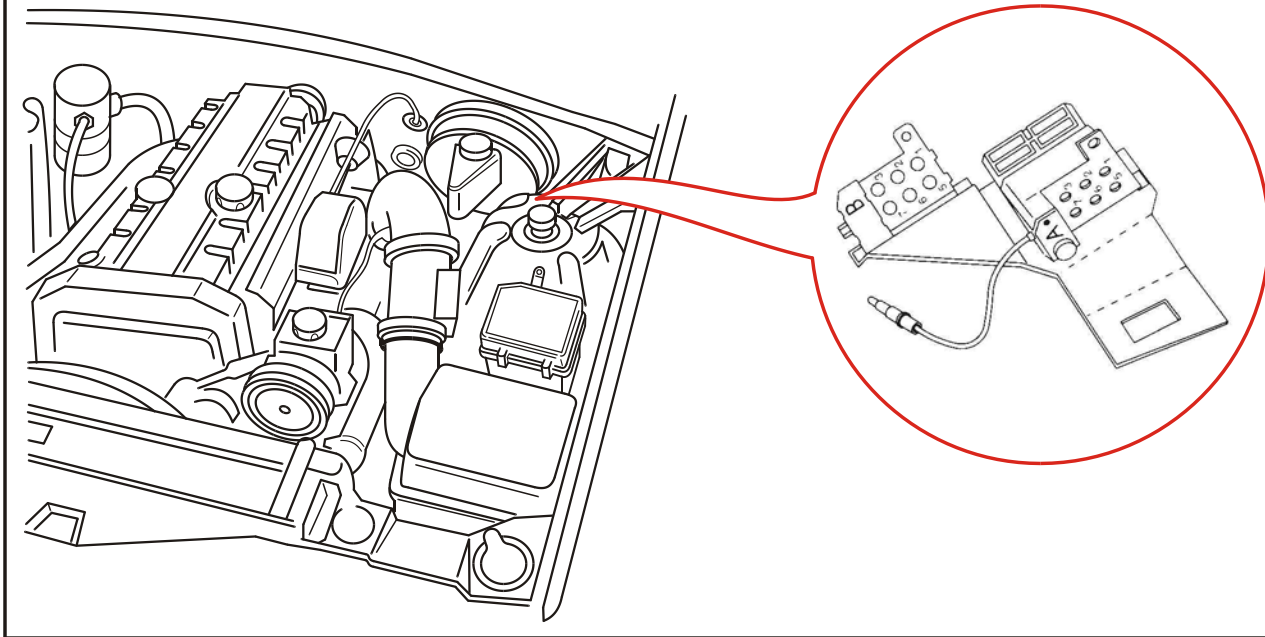
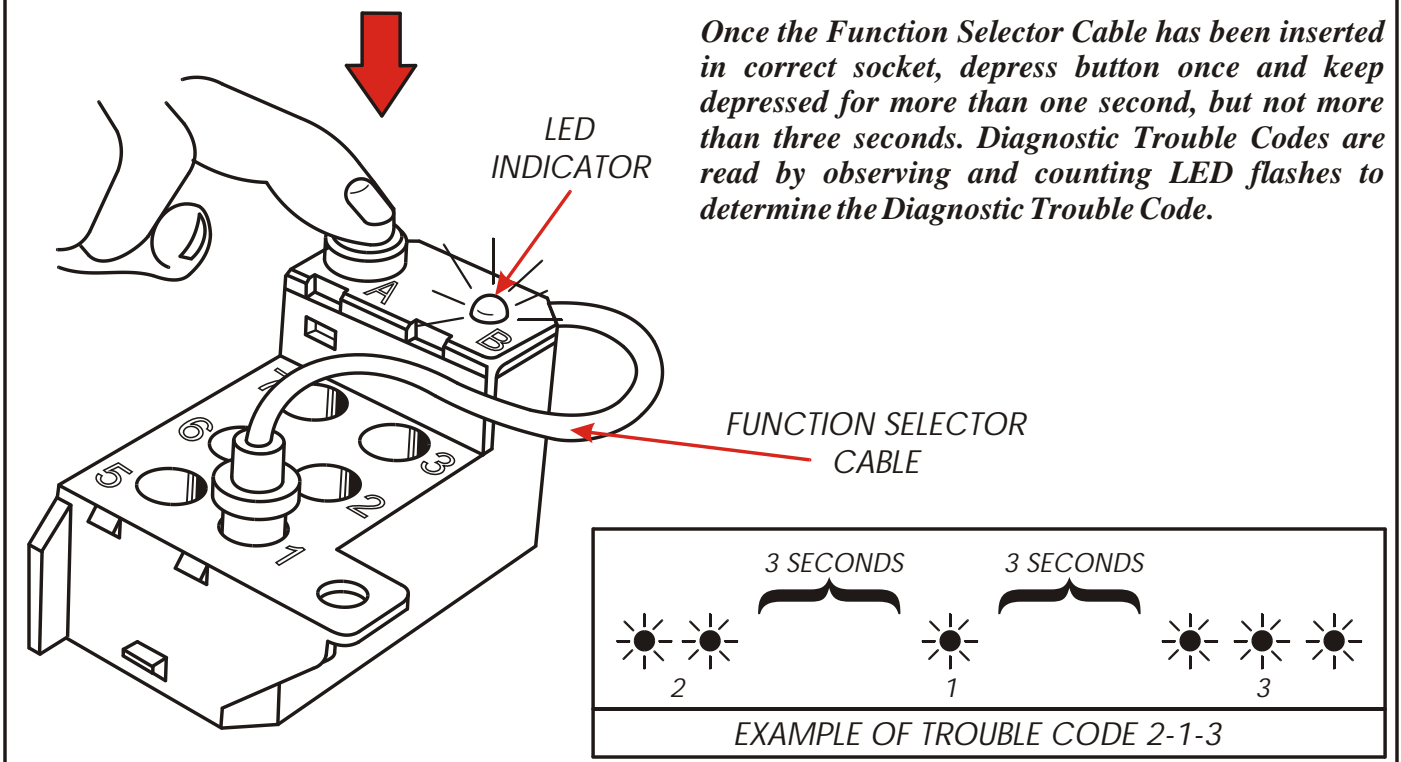

Figure 1
Figure 2
Faults are recorded in the Transmission Control Module (TCM) memory, in the form of Diagnostic Trouble Codes (DTC). Codes can be displayed manually using the LED Indicator on the Volvo diagnostic unit. The diagnostic unit is located in the engine compartment at the left strut tower, as shown in Figure 1. The diagnostic unit is equipped with an LED Indicator, Function Selector Cable and Activation Button, as shown in Figure 2. Diagnostic unit output socket number 1 is used to retrieve TCM diagnostic codes, as shown in Figure 2. Use the following procedure to retrieve (DTC's).
- (1) Turn the ignition switch to the "OFF" position.
- (2) Remove the Function Selector Cable from its storage cavity, and install it into diagnostic unit output socket number 1, as shown in Figure 2.
- (3) Turn the ignition switch to the "ON" position.
- (4) Depress the Activation Button and keep depressed for more than one second, but not more than three seconds. Refer to Figure 2.
- (5) Observe the LED Indicator on the diagnostic unit, and count the number of flashes to determine the *first* Diagnostic Trouble Code stored in the TCM memory. All codes contain three digits (Example: 2-1-3). Since all codes have three digits, each code requires three series of flashes on the LED Indicator. Example is shown in Figure 2.
- (6) Since only one DTC can be retrieved with one push of the button, depress the Activation Button again to determine if any additional DTC's have been stored in the TCM memory.
- (7) Read and record all Diagnostic Trouble Codes, pushing the activation button as many times as necessary, until the first code returns to the display.
- (1) Ensure that the Function Selector Cable is still located in diagnostic unit output socket number 1, as shown in Figure 2, and the ignition switch is in the "ON" position.
- (2) Depress the activation button, and hold down for at least five seconds, and watch for LED indicator response. The LED indicator should go out three seconds after the button is released.